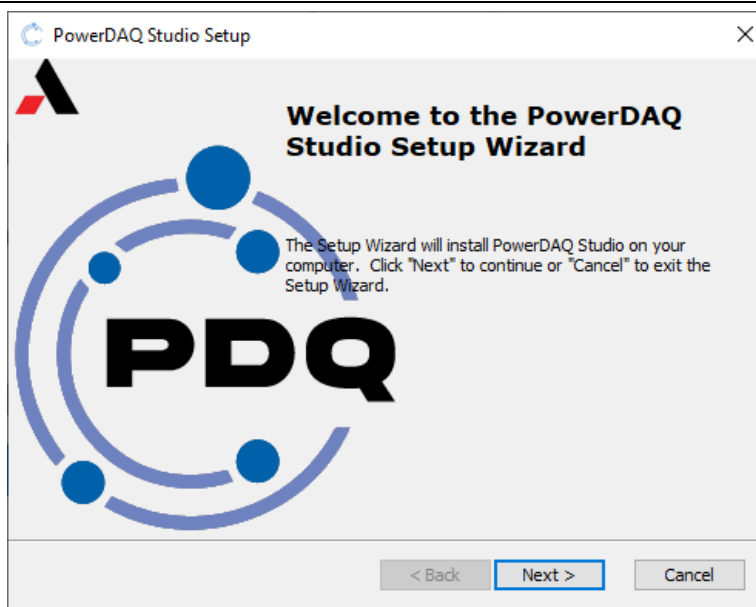
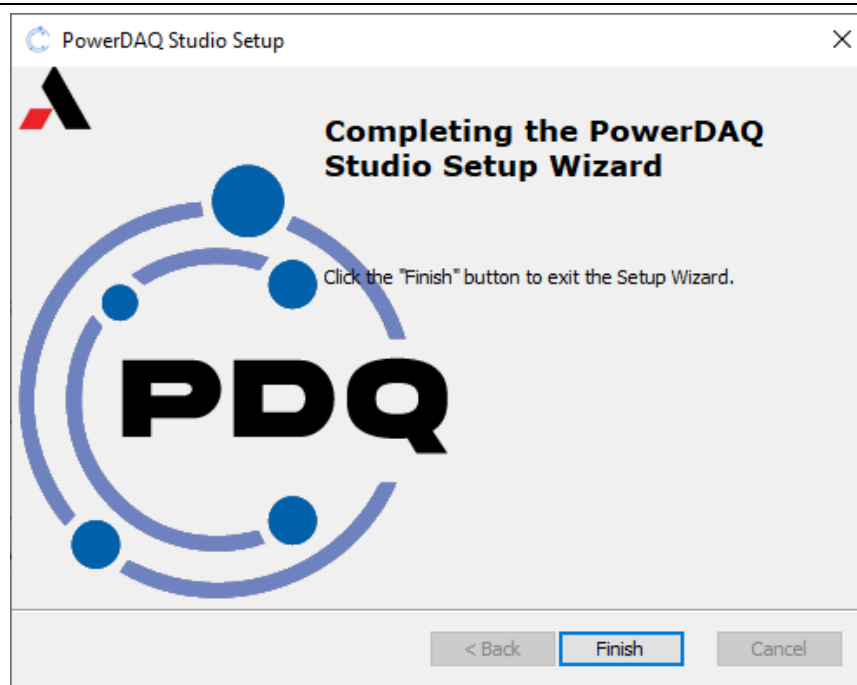

Figure 2. PowerDAQ Studio Setup Wizard
Figure 6. PowerDAQ Studio Setup Complete
3. Click through the installer prompts. Refer to Figure 2 through Figure 6.